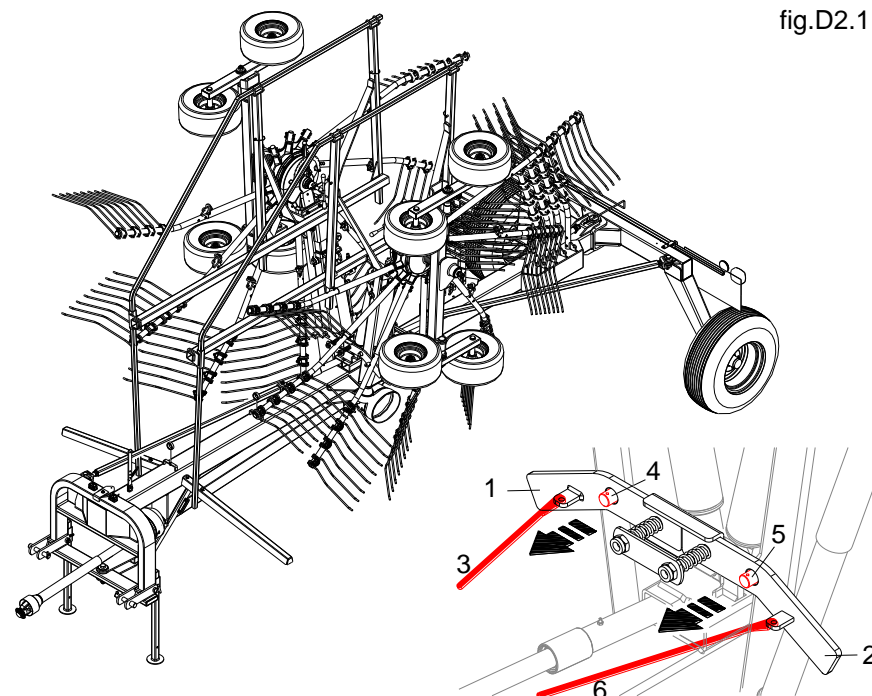

fig.D2.11
- from the cabin, simultaneously pull the two lines **3** and **6** to unlock the two rams **4** and **5** from the mechanical supports **1** and **2** (**fig. D2.11**);